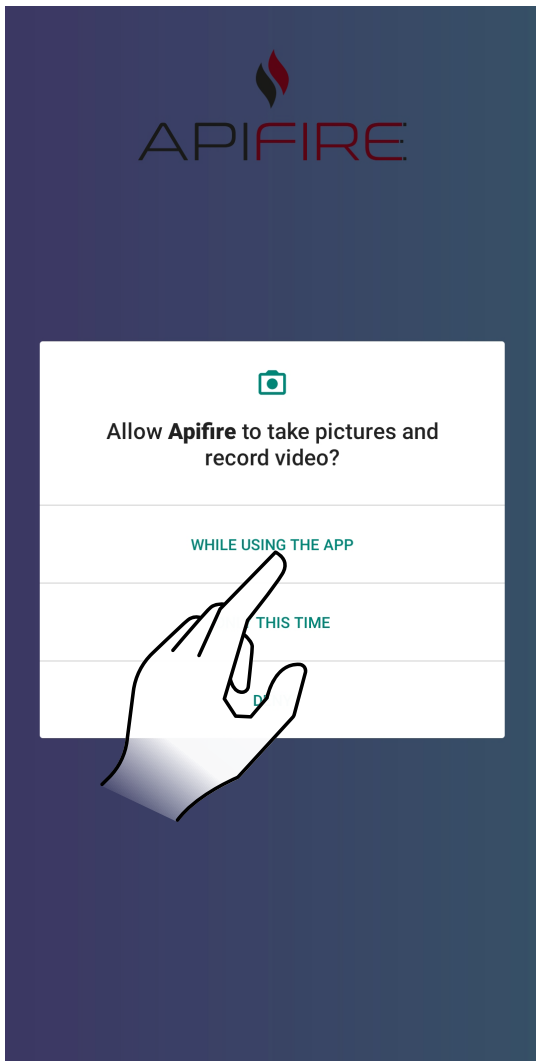

Fig. 1
This type of installation (See Fig.1) requires an insulated chimney pot, even if the entire conduit is installed inside the building. Besides, the structure must be inserted into a properly ventilated skylight shaft.
- that you have scanned the QR code correctly. Check that ApiFire allows use of the camera, if it has not been allowed the scan will appear completely black; therefore, edit the settings as shown in Fig. 1 and 2, or manually enter the 16-digit code;